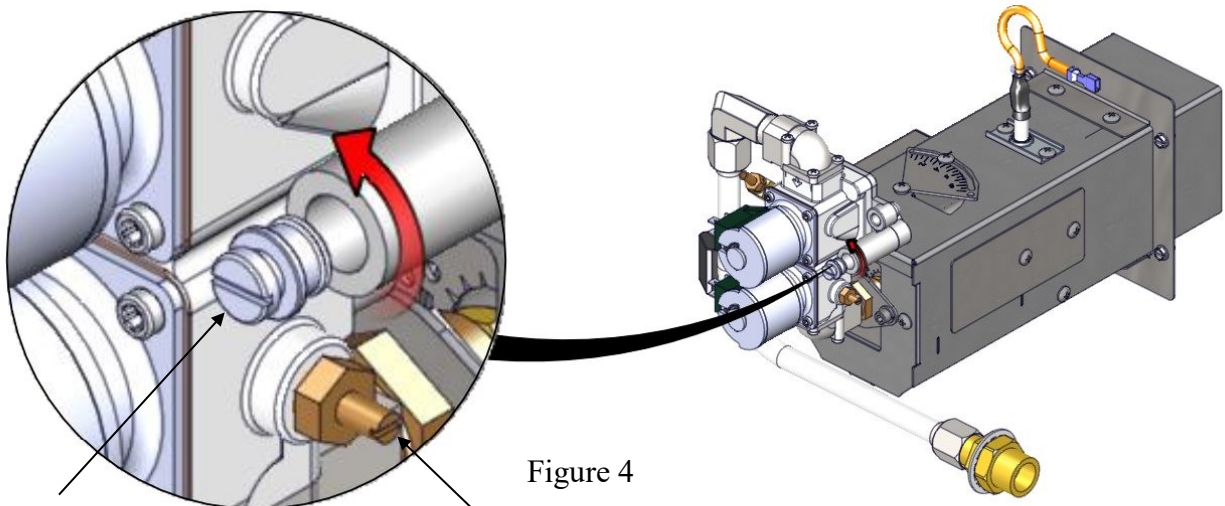

Figure 4
- Turn the High Flame Bias Screw located behind the Seal Screw (Figure 4) until desired setting is achieved. Use chart below for correct valve settings.
- Tighten adjustment screw one (1) full turn clockwise